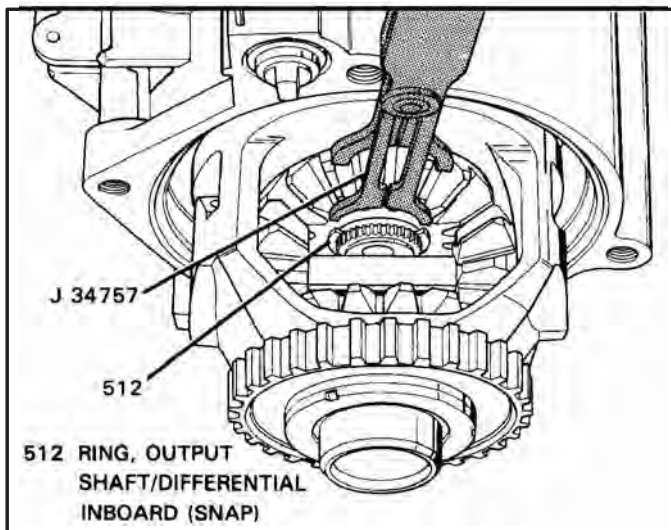
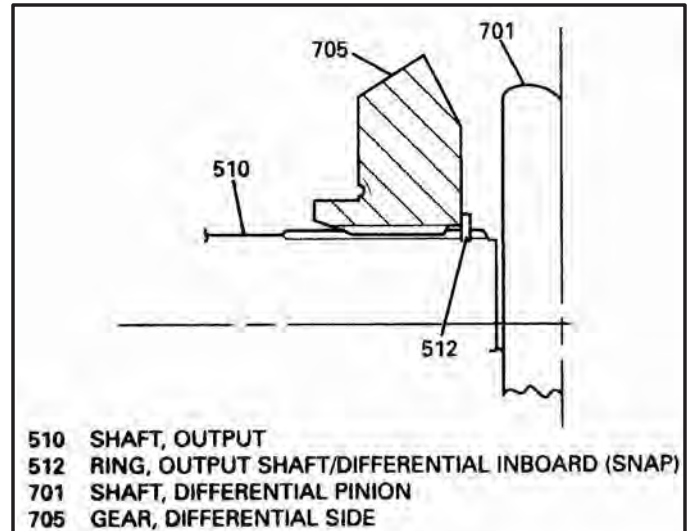

Figure 54
Figure 55
27. Remove the output shaft retaining clip using tool shown in Figure 54. For a cross-section view, refer to Figure 55.